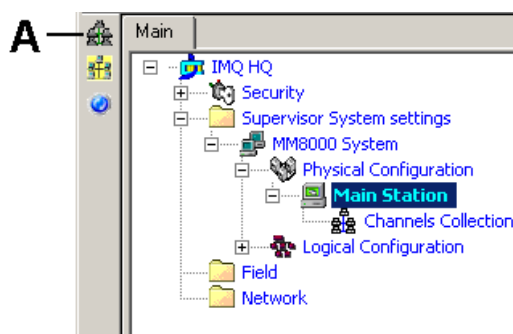

Fig. 2 Adding the Video Network Manager (A)
The Fig. 2 illustrates how to add the VNM to the configuration:
2. Click the button **A** to add the **VNM** (see Fig. 2).